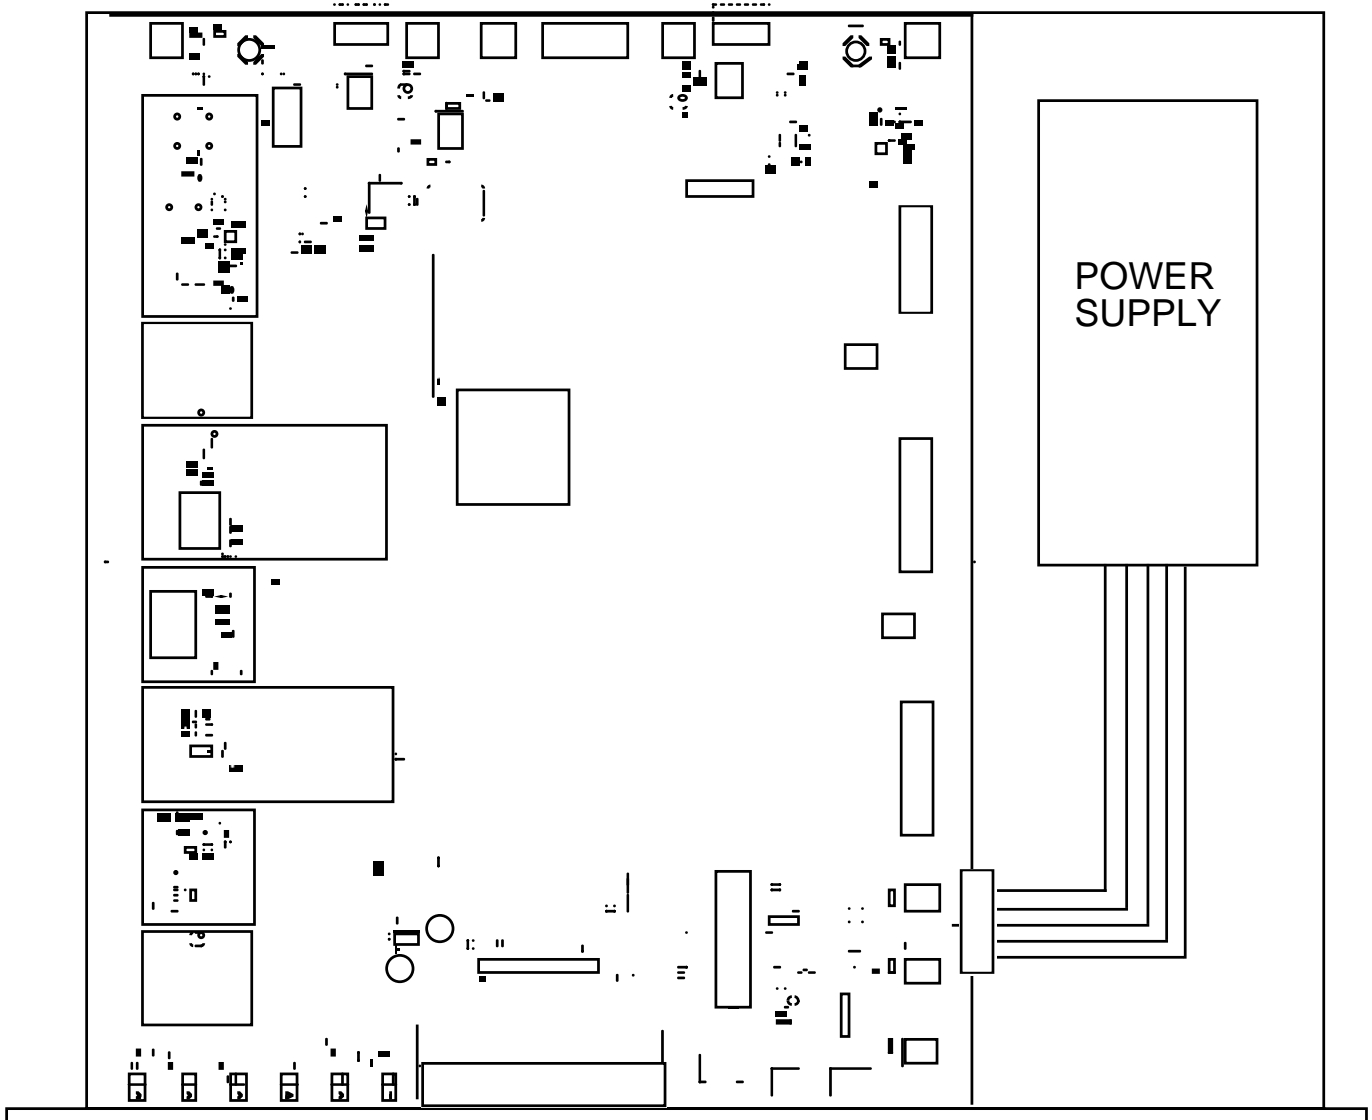

FIGURE 2.1 2083-1610 Mechanical Assembly
2.1 Mechanical - The 2083-1610 consists of one RF/Controller PCB housed in a 1 RU (1 3/4 inch high) by 16 inch deep chassis. A switching, ± 12 , +24, +5 VDC power supply provides power for the assemblies. The 2083-1610 can be secured to a rack using the 4 holes on the front panel. Figure 2.1 shows how the 2083-1610 is assembled.